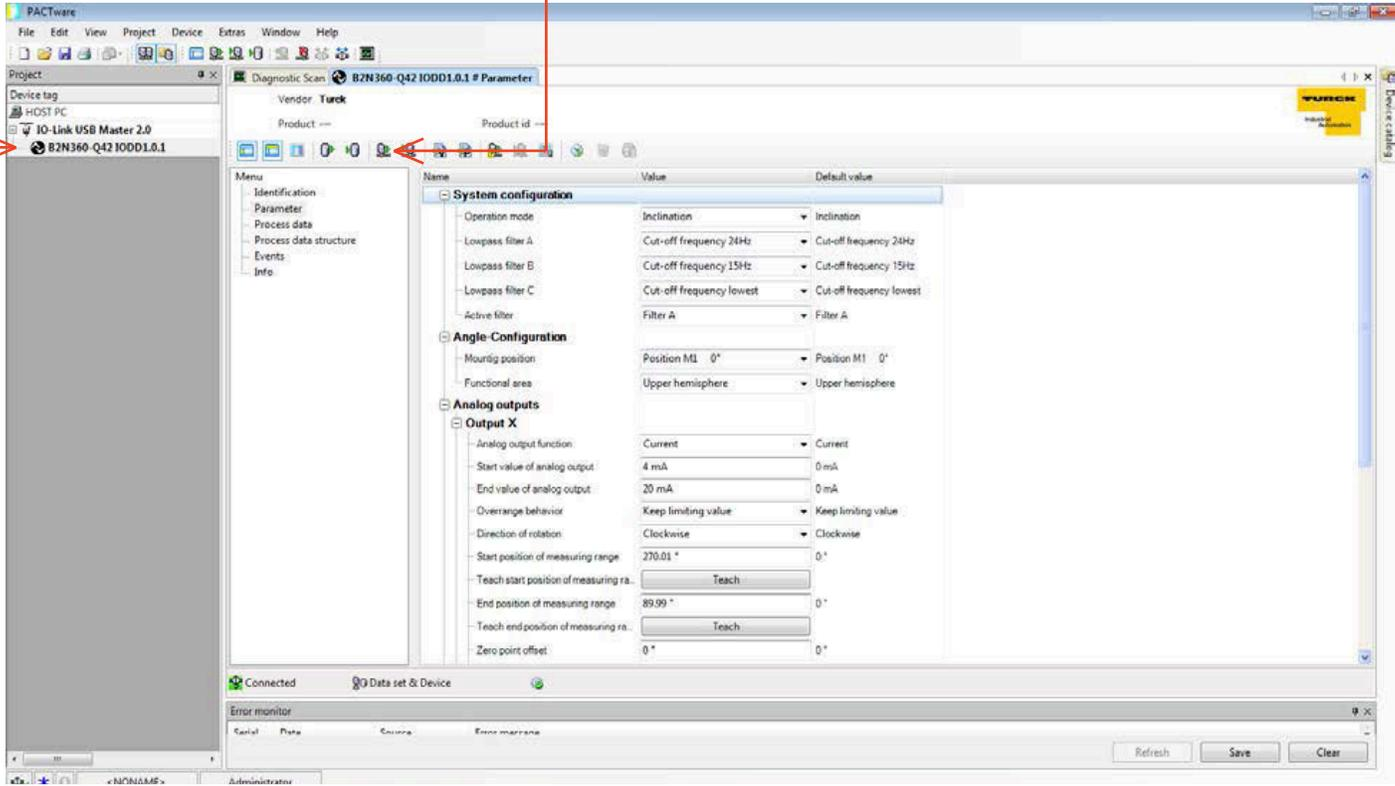

Figure 8
11) If you click on the icon "Read from Device(Upload)" the parameters will be uploaded from the device as they are currently stored. (See Figure 8)